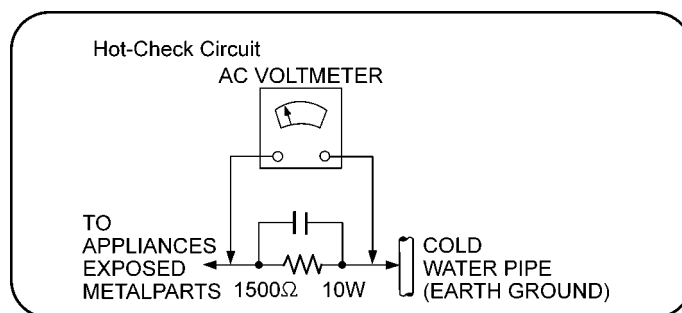

Figure 1-1
2. Connect a  $1.5k\Omega$ , 10 watts resistor, in parallel with a  $0.15\mu F$  capacitors, between each exposed metallic part on the set and a good earth ground such as a water pipe, as shown in Figure 1-1.